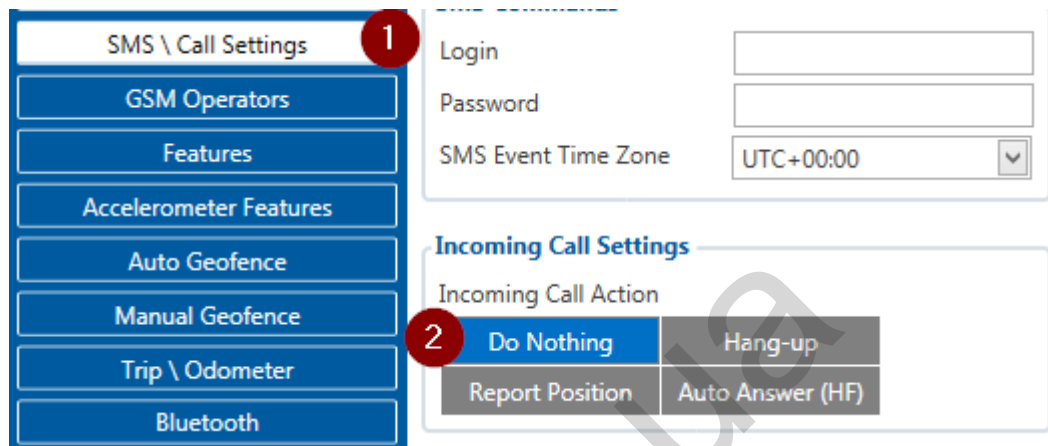

Figure 44 Incoming Call Action settings
- Go to “SMS \ Call Settings” in left menu and set “Incomming Call Action” to “Do Nothing” visible at Figure 44.